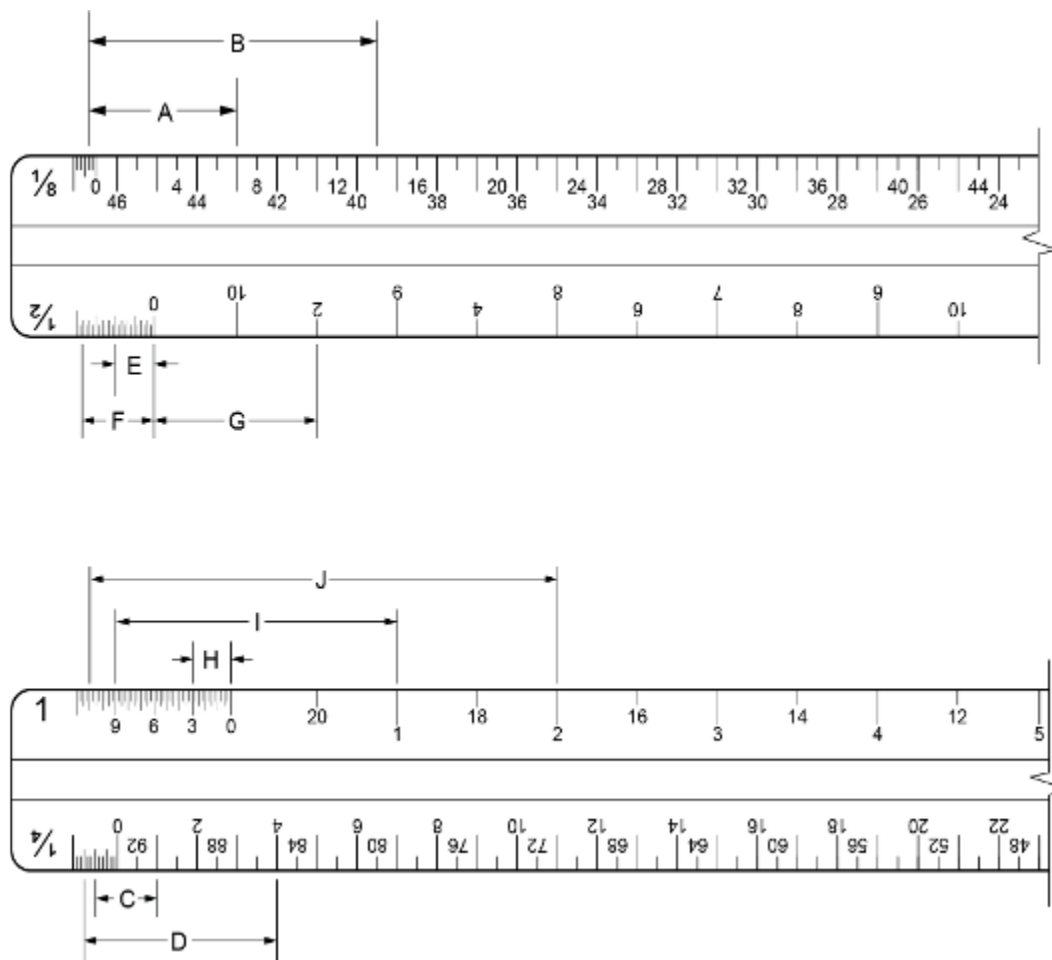

Figure 1 Illustration for question 1
1. List the correct measurements for the lettered dimensions in Figure 1.